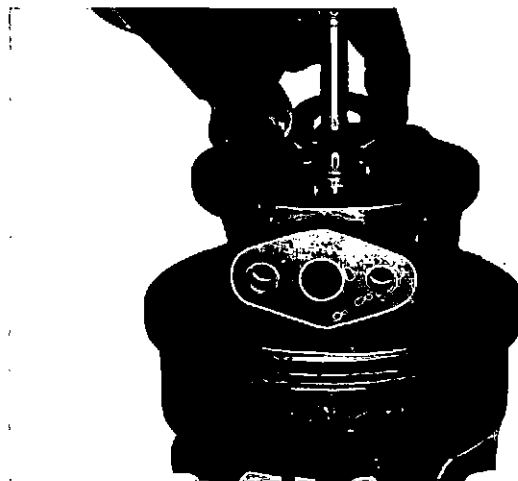

Fig. 5-28, (TA30). Installing the thrust washer
6. Position a new thrust washer (grooves out), Fig. 5-28, on the center housing. Make sure the hole and cut-out engage the pins in the center housing and the thrust washer is seated flat against the surface of the housing.